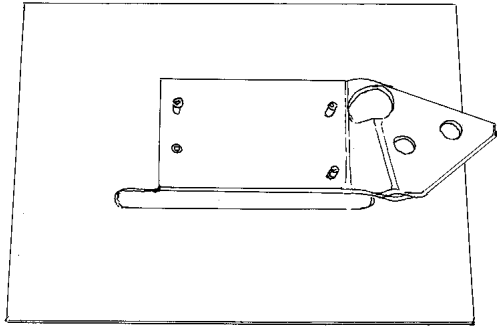
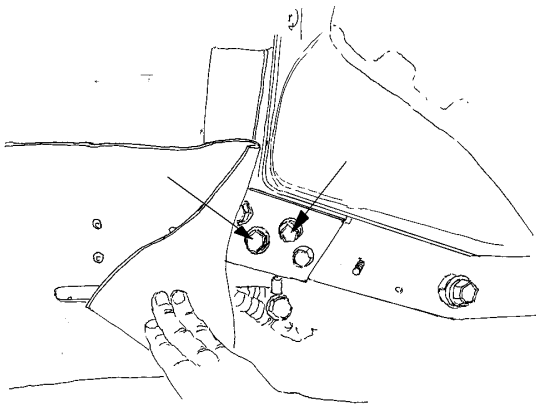

Figure 2 Rear View of Fender Extension Flap
Figure 3 Fender Extension Flap Mounted to the Cab Bracket- Arrows Indicate Bolts (2) To Be Used
1. MOUNTING BOLTS (1)
5. Remove two bolts from the cab mount bracket at the sled runner (Figure 3) and install the fender extension flap from Kit Number 8000827R91. Make sure the rubber flap is positioned to the outside, the metal bracket (Figure 2) against the cab mount bracket sled runner. Re-install the bolts and tighten to 88 to 106 Lbf-ft (119 to 144 Nm).